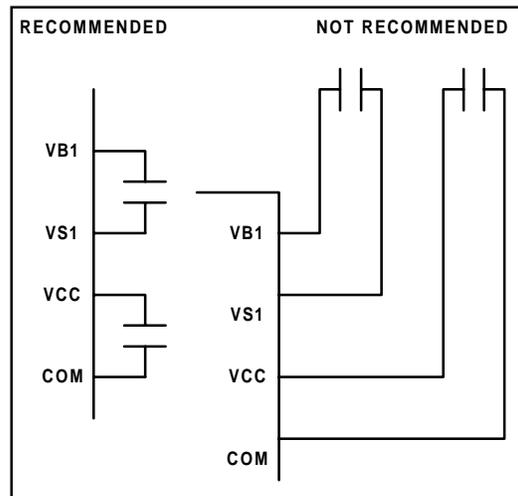

Figure 7. Decoupling Capacitor Location
- 3c. Connect decoupling capacitors directly across appropriate pins as shown in figure 7.